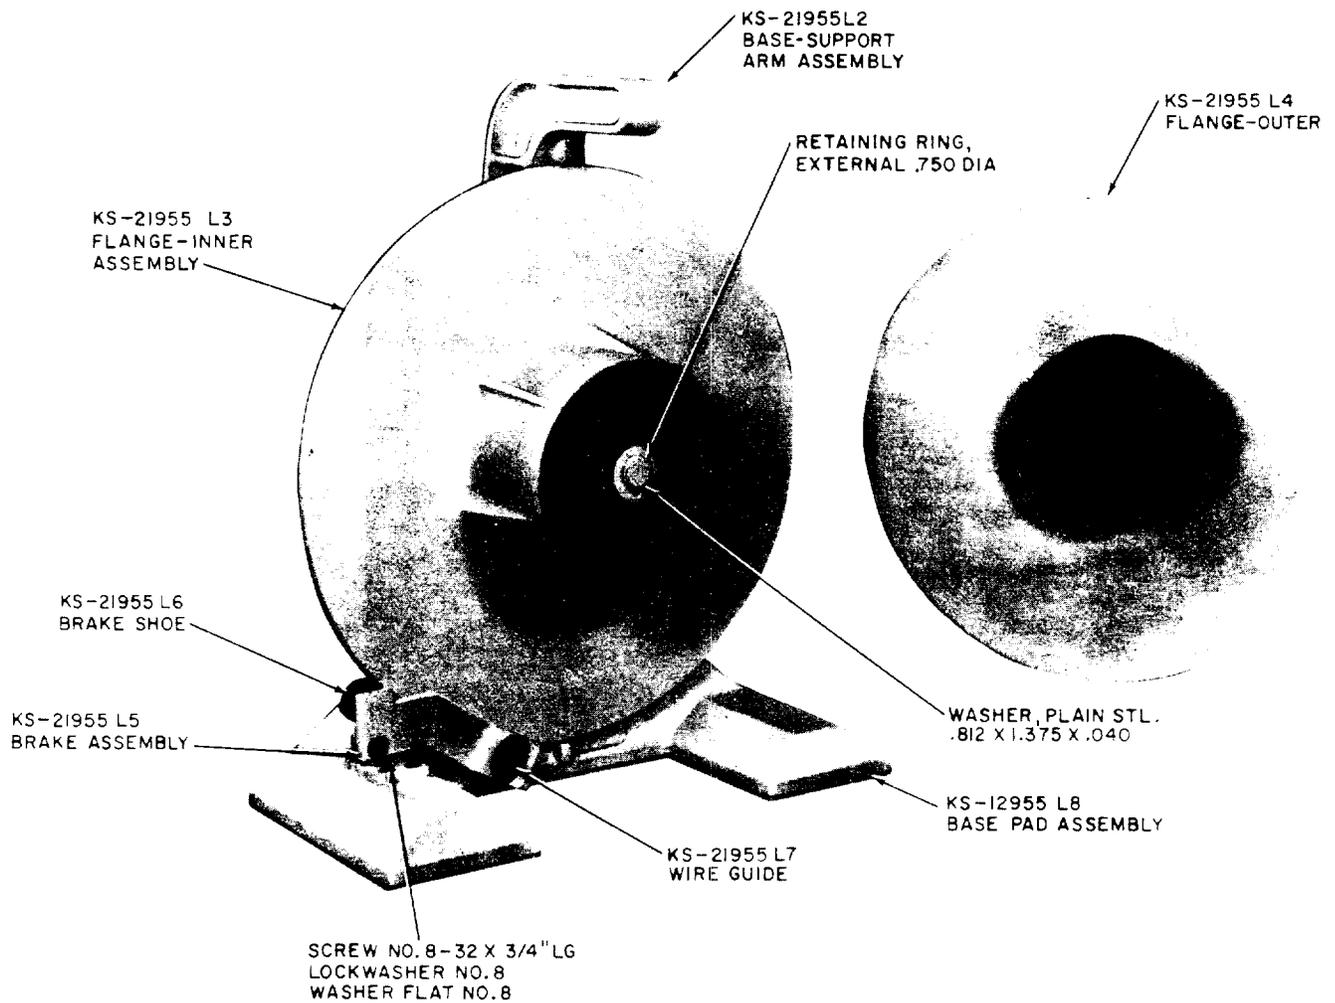

Fig. 2—KS-21955 Wire Reel With Outer Flange Removed
2.01 Fig. 2 shows the various piece-parts in their proper relationship to other parts of the wire reel.